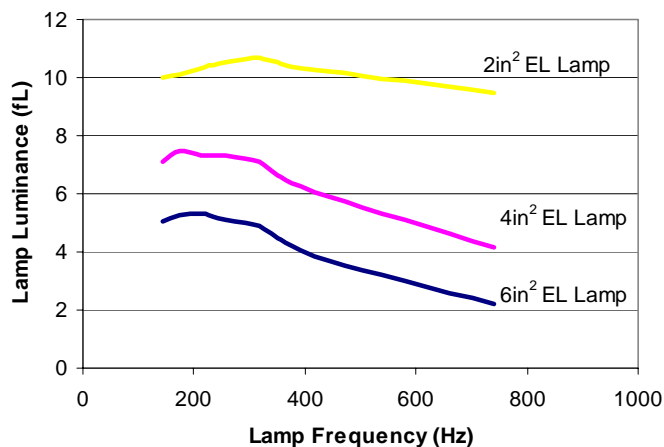

Figure 2: Typical Lamp Luminance vs. Lamp Frequency
The selection of the CLF value can also affect the brightness of the EL lamp because of its control of the lamp frequency (LF). Although input voltage and lamp size can change EL lamp frequency as well, LF mainly depends on the CLF value selected or the frequency of the input clock signal to CLF. The luminance of various sizes of a blue-green EL lamp driven by a D355B IC at $V_+ = 3.0V$ using the same inductor value is shown in Figure 2 with respect to lamp frequency.